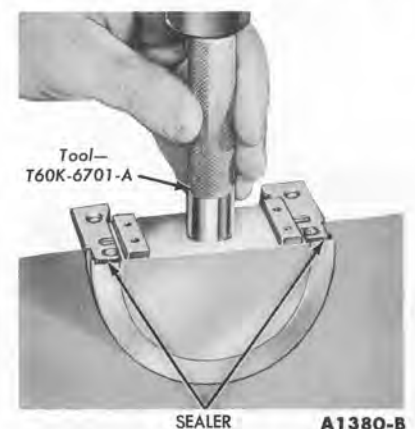

FIG. 52—Seal To Rear Bearing Cap Installation
(Fig. 52). After installation, cut the ends of the seals flush.
4. Apply a thin coating of oil resistant sealer to the rear main bearing cap at the rear of the top mating surface (Fig. 52). **Do not apply sealer to the area forward of the oil slinger groove.** Install the rear main bearing cap. Torque the cap bolts to specifications.